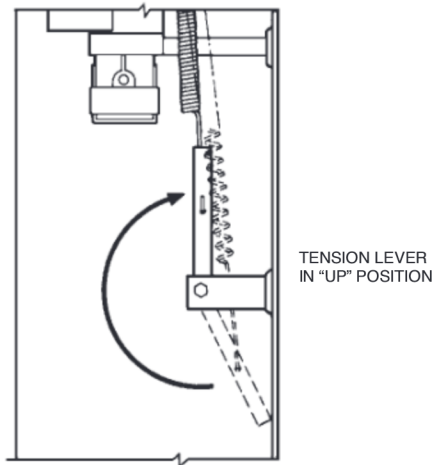

FIGURE 53
13. Make certain tension lever is in the “UP” position. See Figure 53.